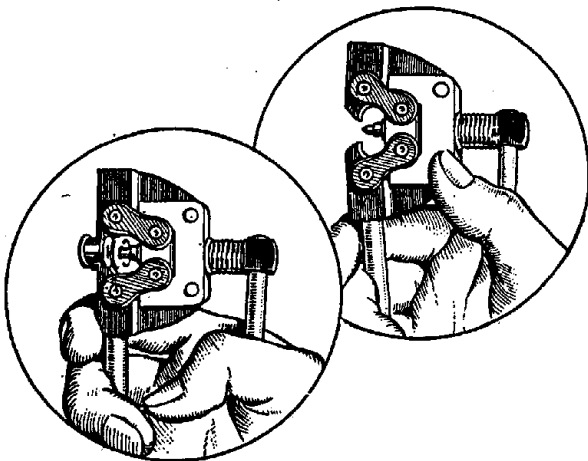

FIG. 21.—METHOD OF USING THE RIVET EXTRACTOR.
- (1) Turn screw anti-clockwise to permit the punch end to clear the chain rivet.
- (2) Open the jaws.
- (3) Pass jaws over chain and rest on a chain roller, free of chain-link plates (see Fig. 21).
- (4) Turn screw clockwise until punch contacts with and pushes out rivet end through chain outer link plate. Unscrew punch, withdraw extractor and repeat complete operation on the adjacent rivet in the same chain outer link plate. The outer plate is then free and the two rivets can be withdrawn from the opposite side with the opposite plate in position. *Do not use the removed part again.*